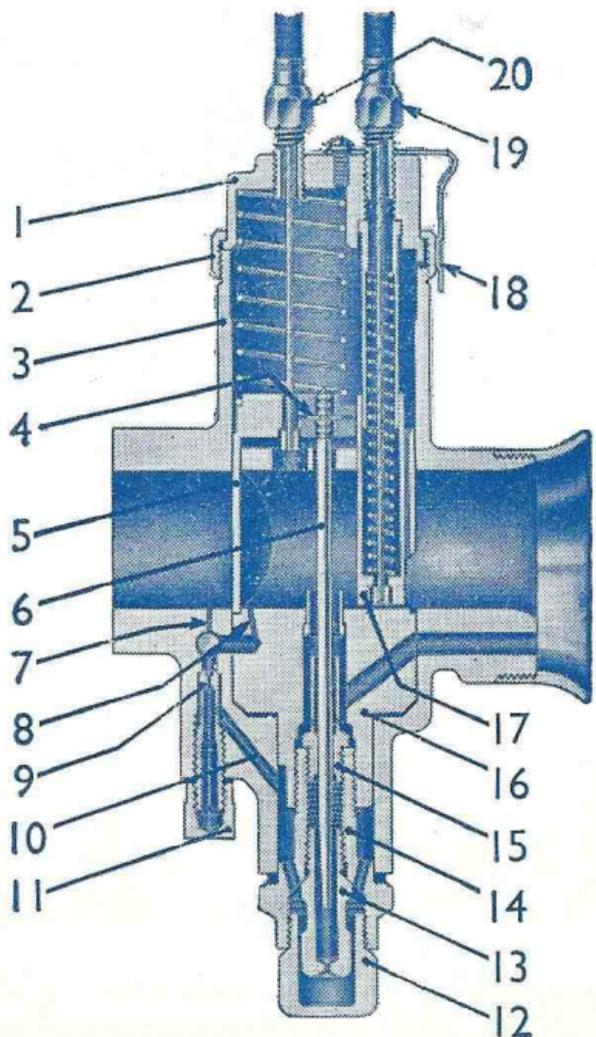

Fig. 2 — Section
BAD PETROL CONSUMPTION of a new machine may be due to flooding, caused by impurities from the petrol tank lodging on the float needle seat and so prevent its valve from closing. Flooding may be caused by a worn float needle valve. Also bad petrol consumption will be apparent if the needle jet (15) (see fig. 2) has worn; it may be remedied or improved by lowering the needle in the throttle, but if it cannot be—then the only remedy is to get a new needle jet.